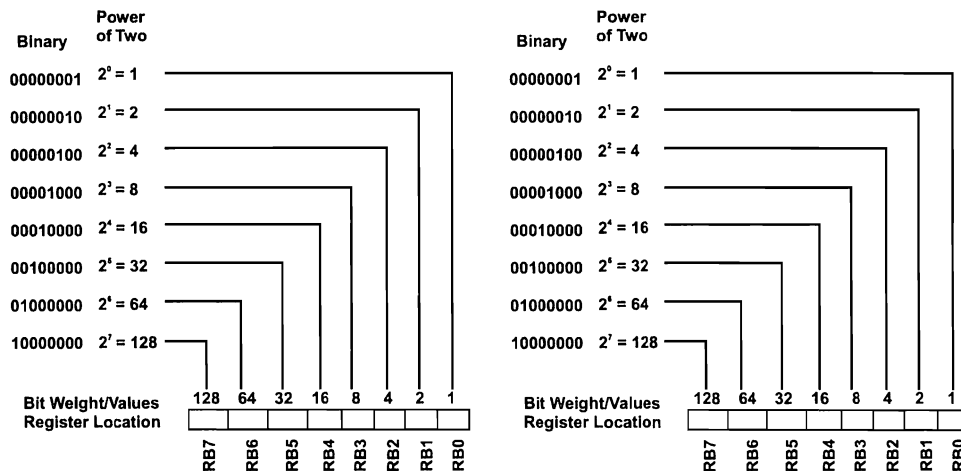

Figure 3.1 Port B I/O lines and registers.
On port B we have eight I/O lines available. On port A only five I/O lines are available to the user. Figure 3.1 shows the relationship between a binary number and the two PIC microcontroller registers that control port B. Let's look at the binary-number side. Notice that for each move of the binary 1 to the left, the exponential power of 2 is increased by 1.
The open TRISB register shown in Fig. 3.1 may be used to examine numbers placed in the TRISB. The port B register may be used to examine numbers placed at the port B register.
Here is another example. Let's configure port B so that bit 7 (RB7) is an input pin and all other pins are output lines. To place binary 0s and 1s in the proper bit location, we use the bit weights shown in Fig. 3.1. For instance, to turn bit 7 on (1) and all other bits off (0), we would write the decimal number 128 into the TRISB for port B. In Basic, the command to write to a register is the Poke command. The program line to write the decimal value 128 into the TRISB register will look like
Mentally place each 1 and 0 into the TRISB register locations shown in Fig. 3.1. See how the 1 fits into the bit 7 place, making that corresponding line an input line, while all other bit locations have a 0 written in them, making them output lines.